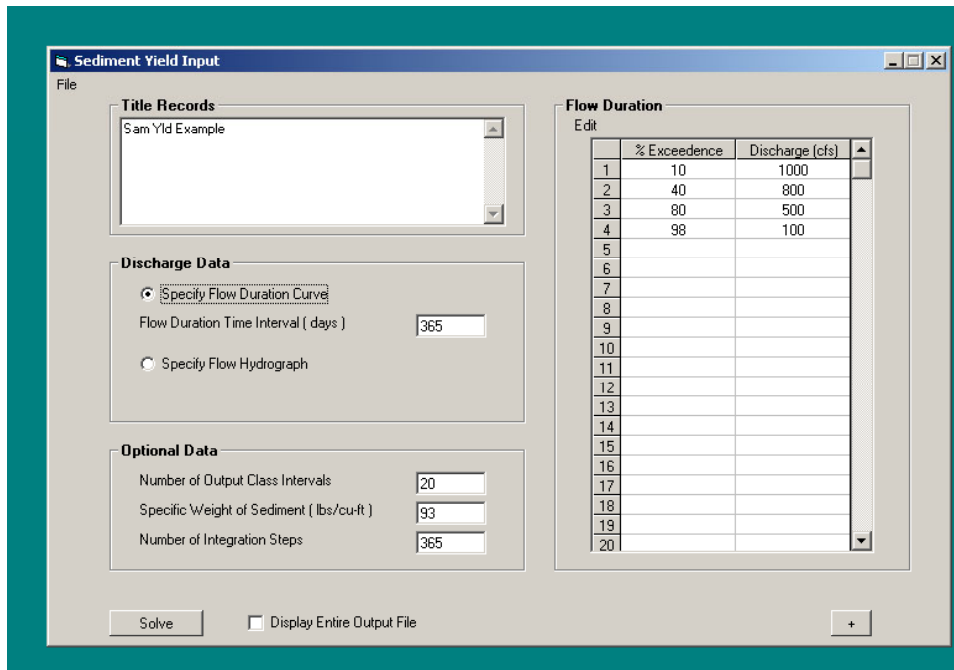
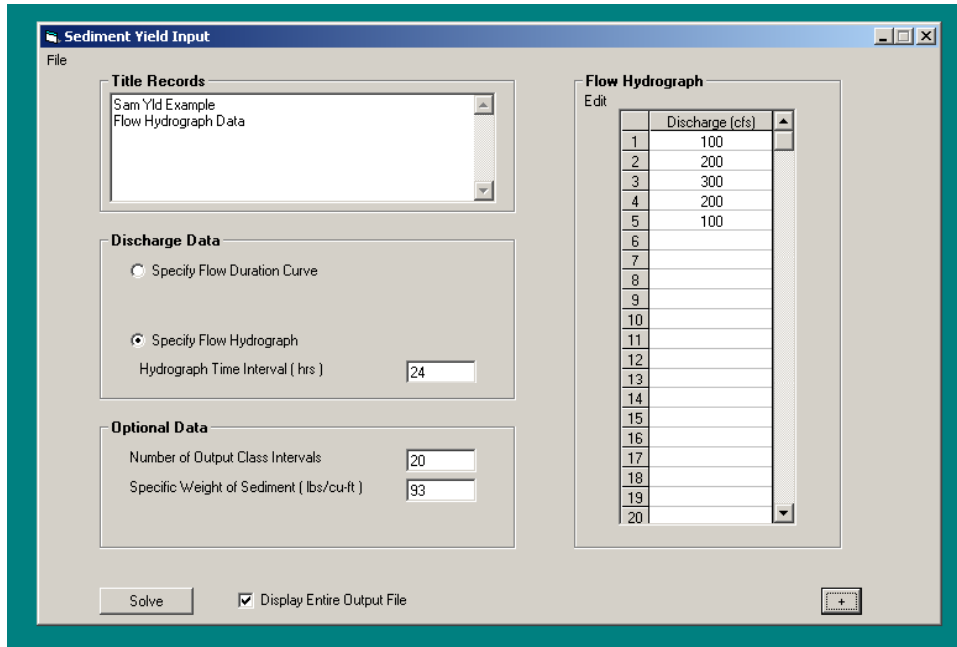

Figure 8.3. Example flow duration data input.
Figure 8.4. Example flow hydrograph data input.
**Discharge Data.** The flow data may be input as a flow duration curve, the option shown in Figure 8.3, or as a flow hydrograph, Figure 8.4. Both options require the time interval to be input. Both the right hand side of the screen and the "Optional Data" area of the screen will request different data depending on the option selected here.
The sediment yield calculations are made in SAMwin from the “Solve” button on the input screen, Figure 8.3 and 9.4, or from the “Run” dropdown menu. This second option is useful if a ready-to-run data set exists. This ready-to-run data set must contain the flow data, as described in the SAM Manual, or the flow data can be in a separate file that **MUST** be named “CDDFIL,” no extension.